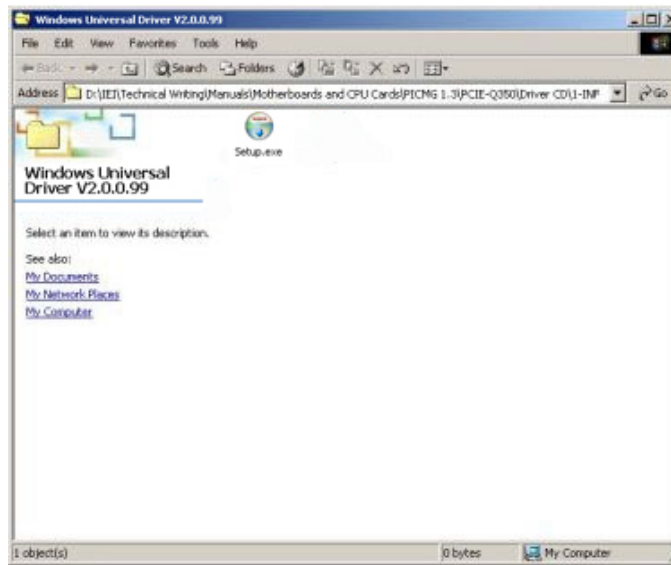

Figure 7-40: Touch Screen Driver Icon
Step 2: A new window opens (Figure 7-40). Click the **Setup.exe** to install the touch screen driver.